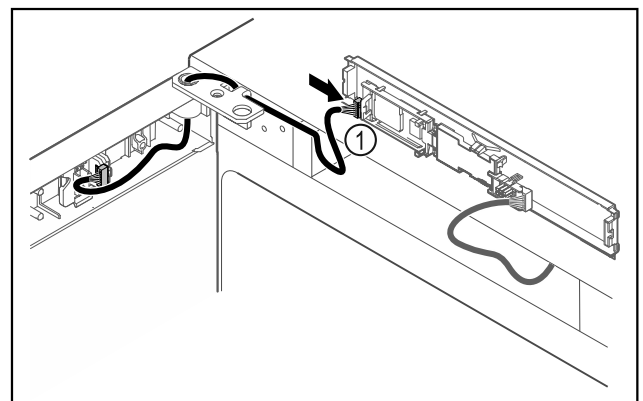

Fig. 39
- ▶ Connect the plug Fig. 39 (1) to the circuit board.